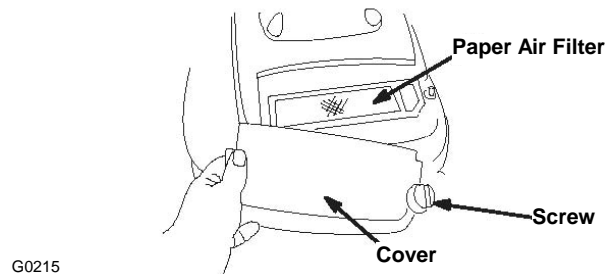

FIGURE 12
- c) Remove the screw that secures the air cleaner cover (Figure 12.)
- d) Remove the cover and clean it thoroughly (Figure 12).